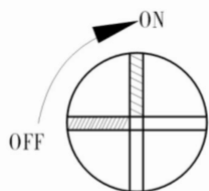

图1
(1) Rolling brush and disc brush switch (as shown in Fig. 1)